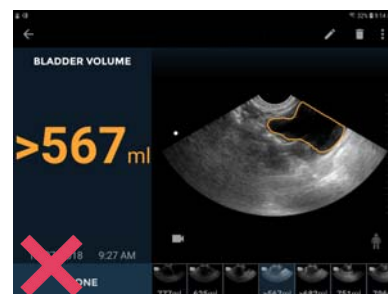

Fig 3.8 Greater Than Symbol
- Fan the probe toward one hip until the sound indicator is heard and an arrow is seen, then fan back toward the other hip until a second sound is heard to capture the entire bladder (Fig 3.8).